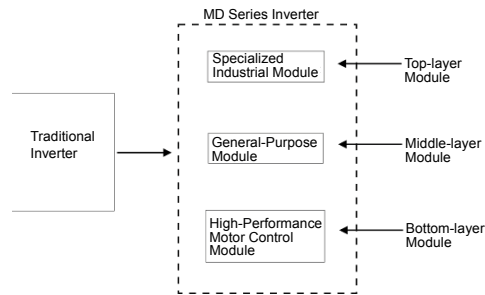

Fig.1 Comparison between Traditional Inverter and MD Series Modular Inverter
1. It firstly creates the three-tier modular structure standard for new generation of inverter as shown in Fig.1.